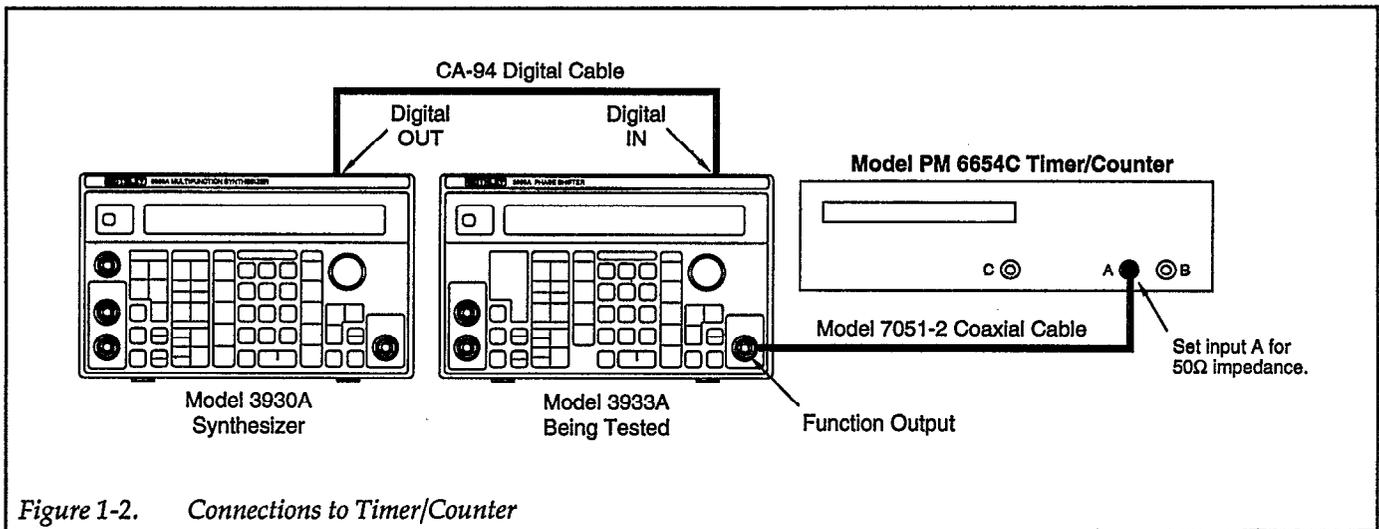

Figure 1-2. Connections to Timer/Counter
| Figure 1-2 | Connections to Timer/Counter | 1-3 |
1. Connect the phase shifter to the Model 3930A and a timer/counter as shown in Figure 1-2. Turn on all instruments.
1. Connect the phase shifter to the synthesizer and a timer/counter as shown in Figure 1-2. Turn on all instruments.